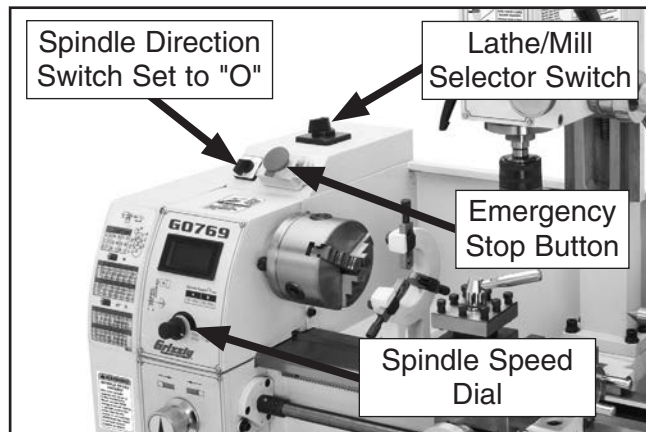

Figure 19. Headstock controls (G0769 shown).
2. Press Emergency Stop button (see **Figure 19**) to prevent unexpected start up.
G0769 Only: Set lathe/mill selector switch to "0" (see **Figure 19** on **Page** on this page).